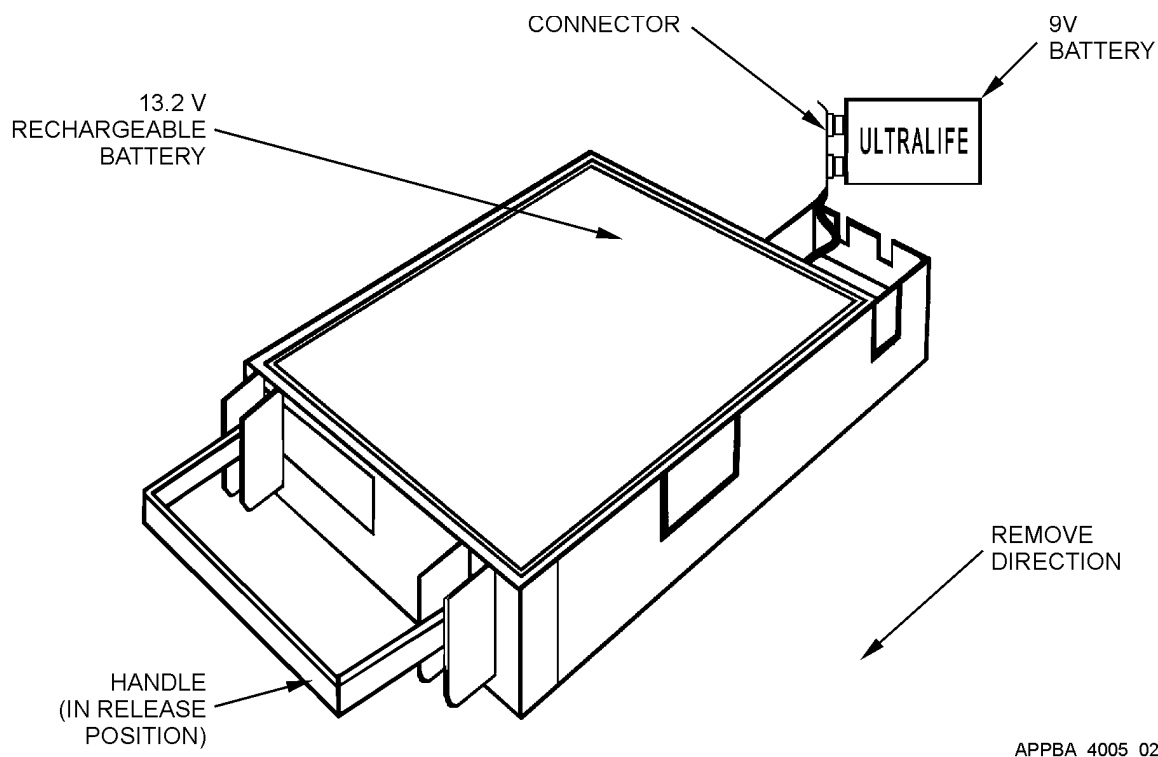

Figure 17 Remove/Replace Battery Housing Assembly For PU NSN 7021-01-474-3793/NSN 7021-01-487-0578
1. Raise battery assembly handle up 90 degrees to the release position. Refer to Figure 17 .